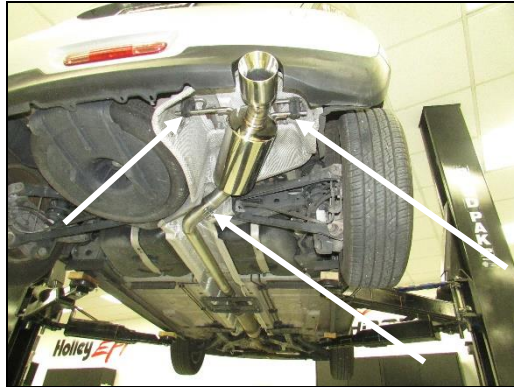

Figure 6
3. Slide on the (x1) 2.25" band clamp. Install the Blackheart muffler. Install the hangers in the OE rubber isolators, line up the exhaust tip, and tighten all clamps (**Figure 6**).